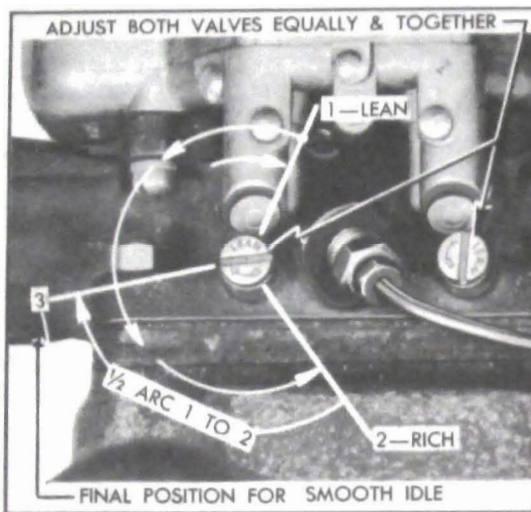

Figure 3-11—Adjustment for Smooth Idle
4. Turn both needle valves "IN" one-half the distance between the first and second positions, being careful to turn both valves an equal amount. See figure 3-11. This should give the smoothest idling point. **NOTE:** *As the needle valves are changed, the throttle stop screw also*